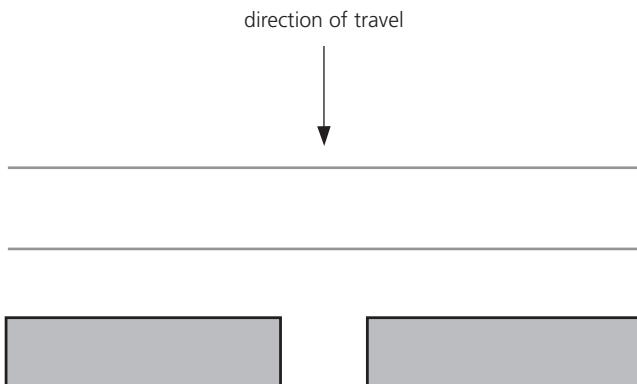

Figure 2
- 1 Place an obstacle in the ripple tank. The obstacle should have a gap in it of about the same width as the wavelength of the water waves (Figure 2).